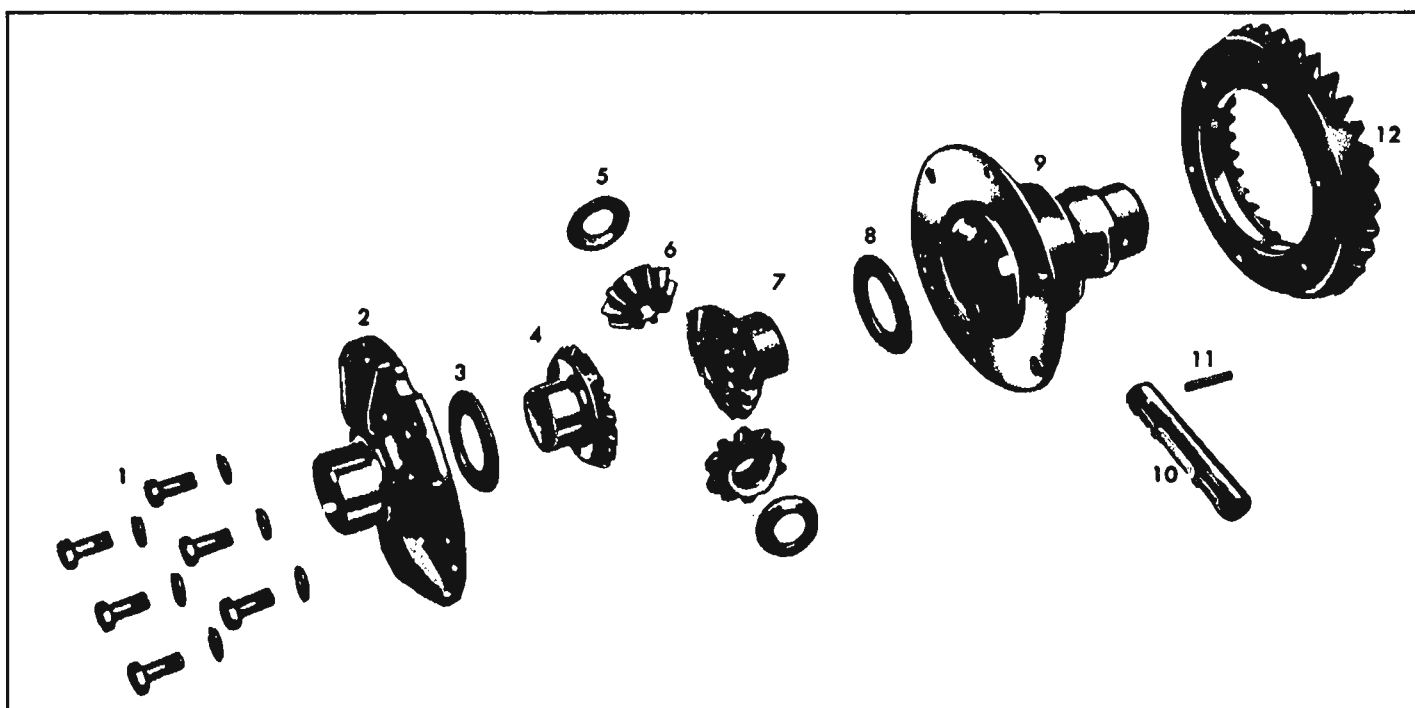

Fig. 6C-32—Differential Assembly—Exploded View
2. Place side gear (fig. 6C-34) and thrust washer in differential case, position two pinion gears and thrust washers, and insert pinion gear shaft through case and pinion gears.
3. Position pinion shaft so a flat surface is upward and install drive pin (fig. 6C-35) through shaft.